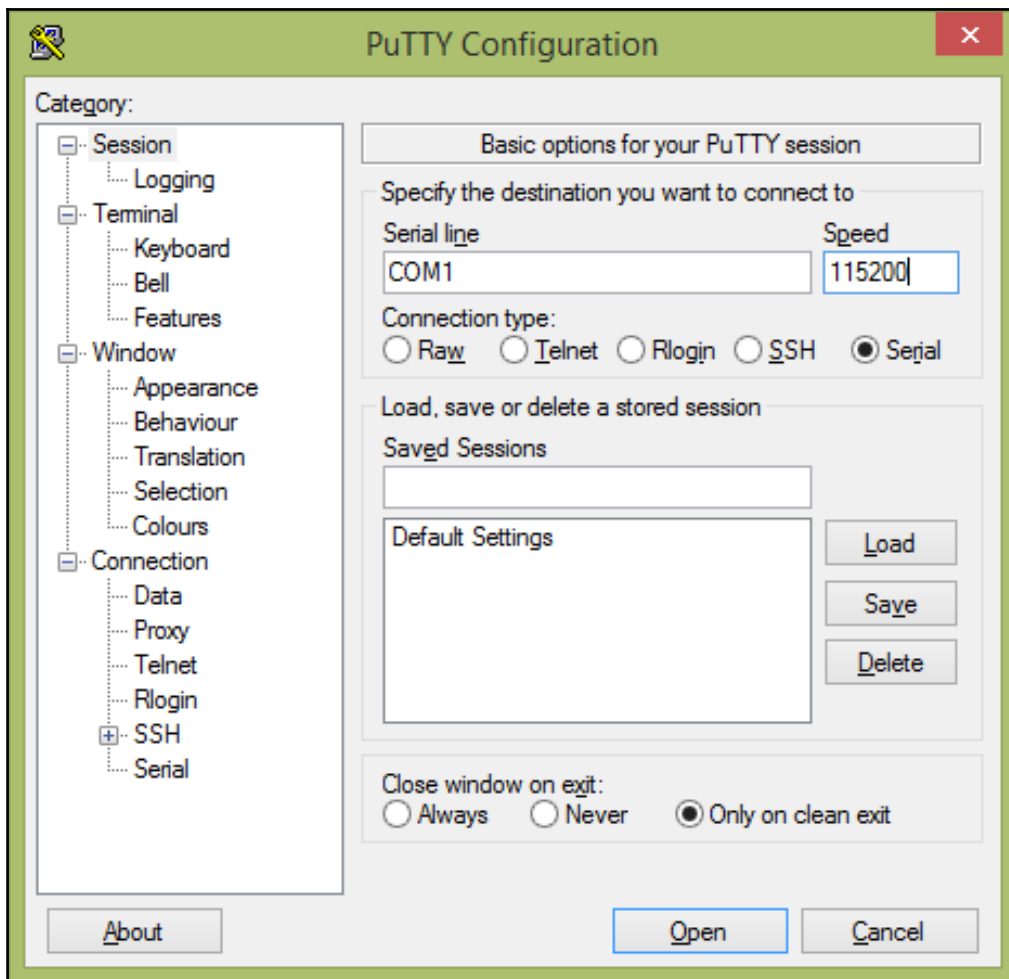

Figure 1.7: The PuTTY configuration window
3. In the **Serial line** text box, type the COM port that is assigned to your ESP8266 board (*Figure 1.7*).